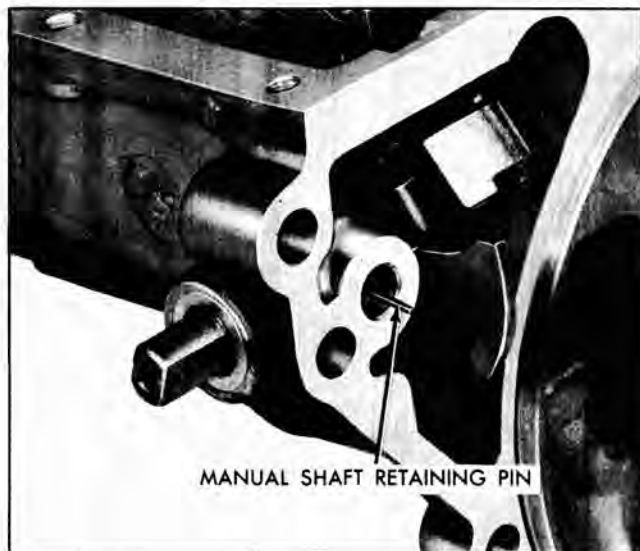

Fig. 101 Manual Shaft Retaining Pin
1. Remove the manual shaft retaining pin from the rear bearing retainer and manual shaft (Fig. 101).
7. Push the manual shaft into the rear bearing retainer just far enough to allow the manual shaft retaining pin to be installed. Install the retaining pin (Fig. 101).